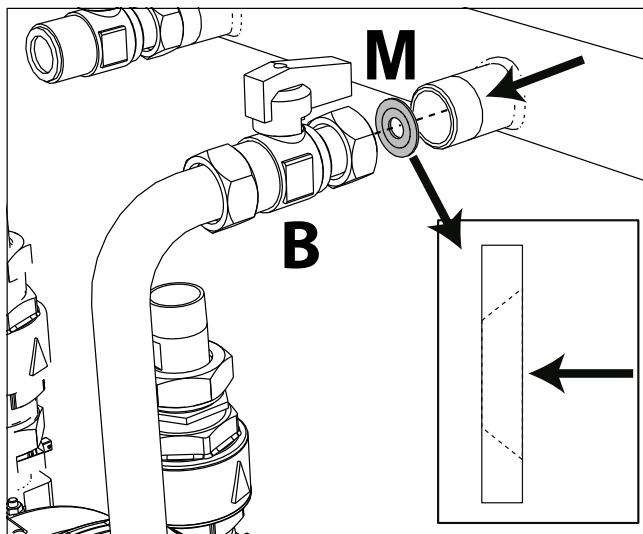

fig. 84- Nozzle for use with LPG
8. In case of **conversion to LPG**, the existing gasket between cock "B" and gas manifold must be replaced with nozzle "M" (fig. 84).
ATTENTION: The nozzle "M" (see fig. 84) **must not** be inserted with the unit running on **Natural Gas**.